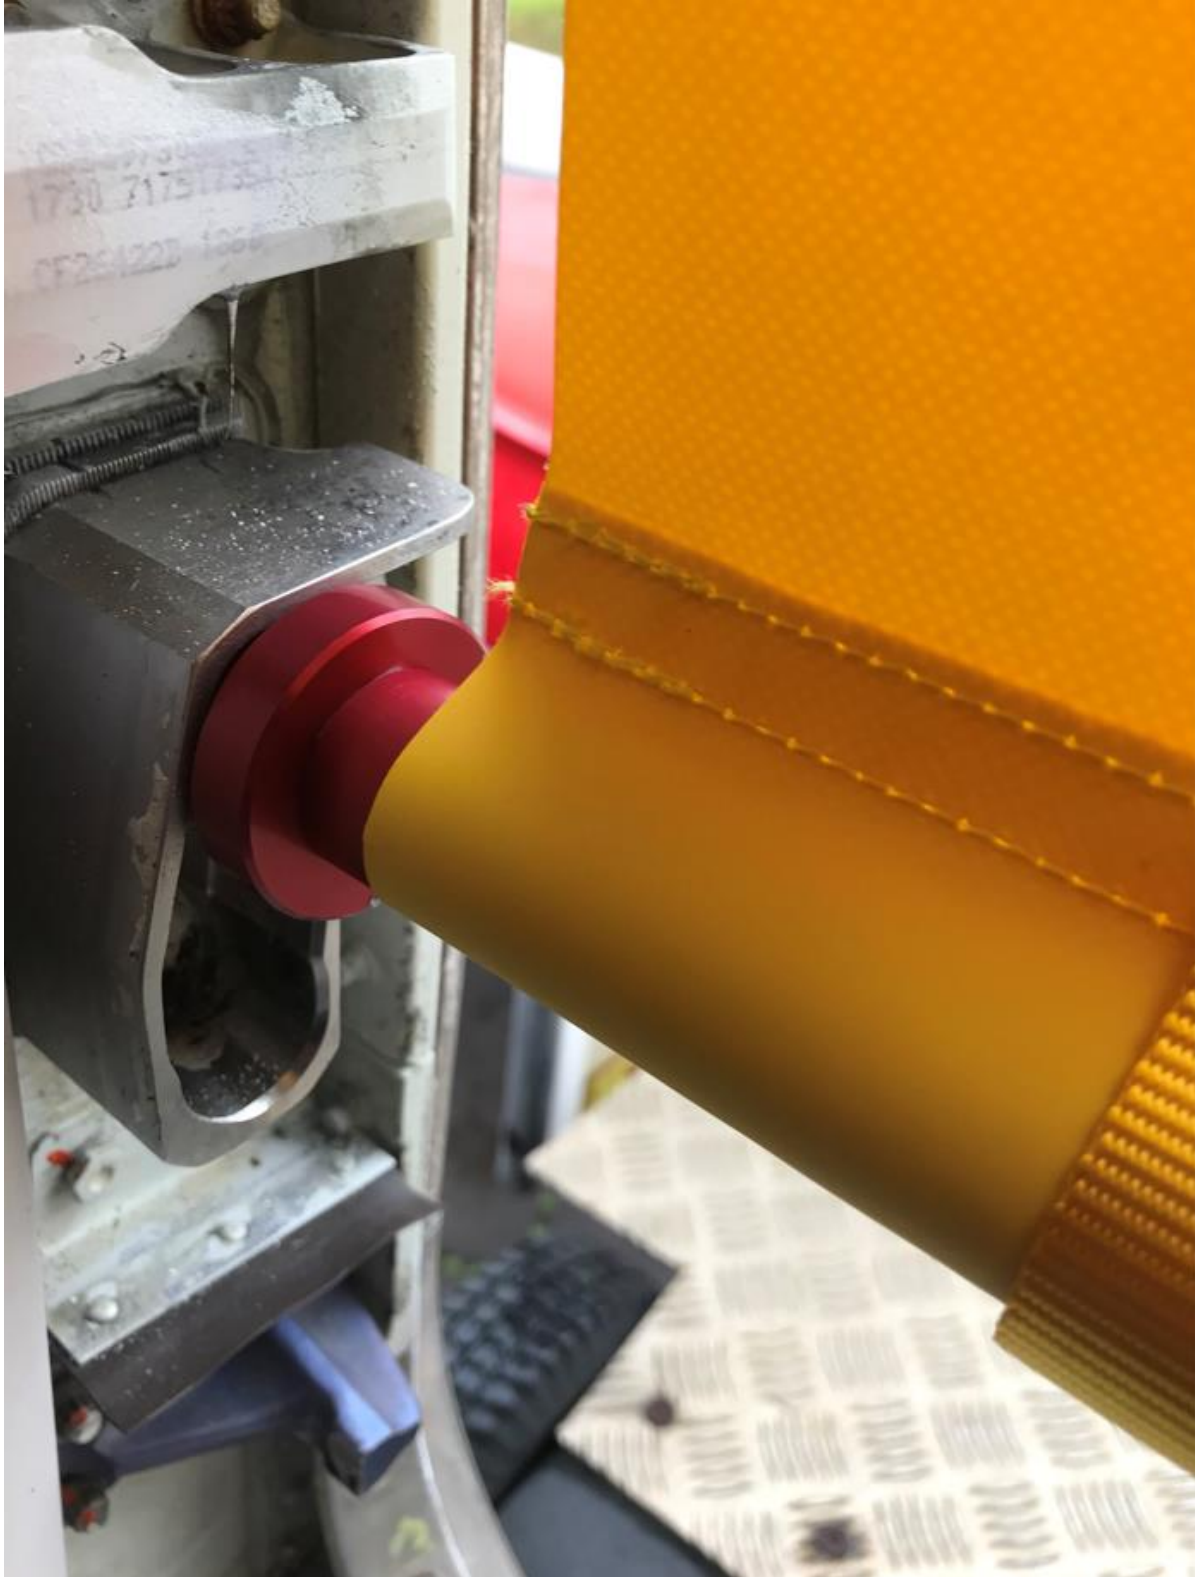

Figure 16 Fixed Bottom Locator in position.
4.1.19 Push the Fixed bottom locator into bottom bracket as shown in figure 16.